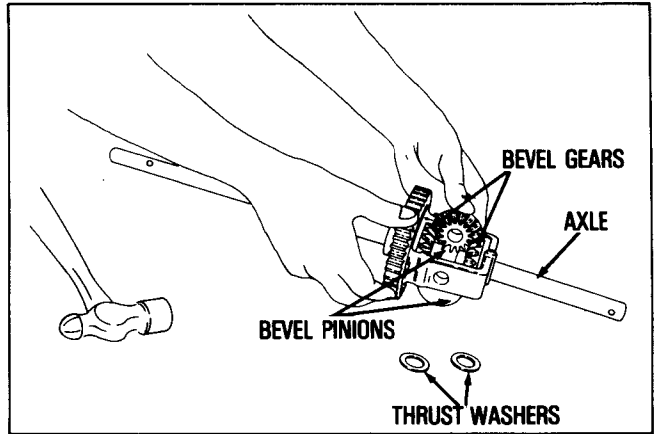

FIGURE 22
NOTE: To secure brake lever, hold bottom nut and torque top nut to 100 in. lbs. (11.2Nm) (See Figure 22).
3. Thrust washers must be removed before attempting to remove the pinions. Remove bevel pinions simultaneously by rotating the gears in opposite directions; gears will move out of position. (See Figure 22).